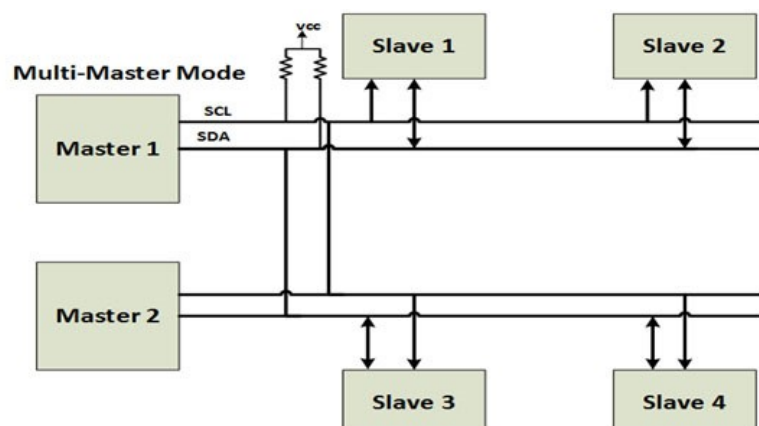

Fig. 2: Overview of Multi-Master Mode of I2C Communication
The inter-integrated circuit or I2C Protocol is a way of serial communication between different devices to exchange their data with each other. It is a **half-duplex bi-directional** two-wire bus system for transmitting and receiving data between masters (M) and slaves (S). These two wires are Serial clock line or SCL and Serial data line or SDA. Masters and Slaves play important role in I2C communication. Master is the one which initiates a communication, generates a clock and terminates the communication and Slave is the one which is handled by master and acts according to the master command. It can also be possible that multiple masters can communicate with multiple slaves. In Figure 2, we can see two Masters are communicating with multiple slaves over I2C Bus.